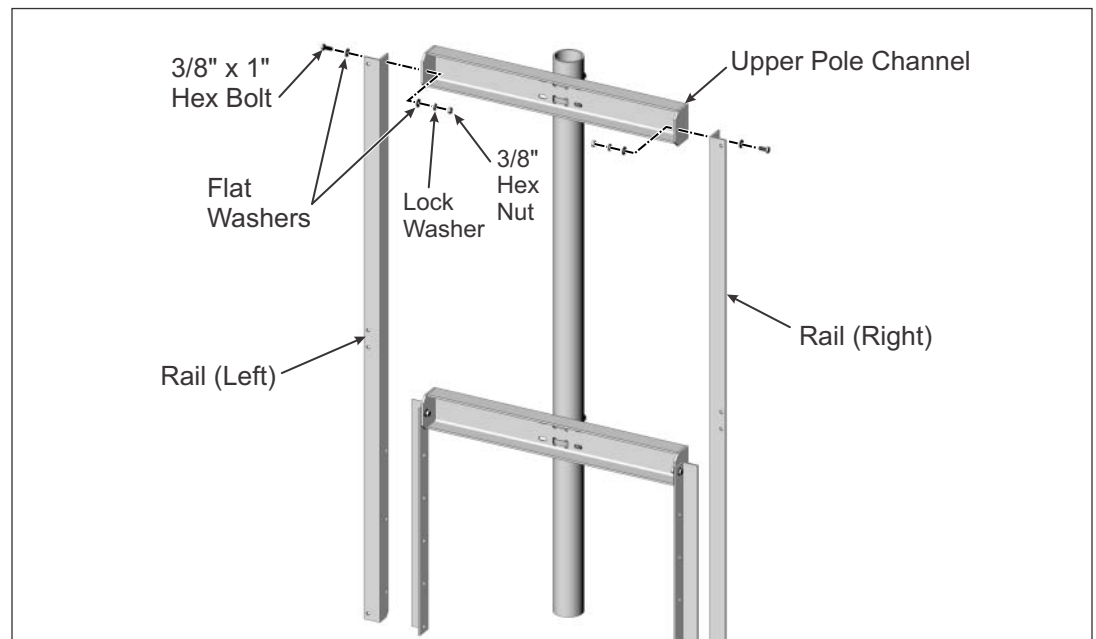

*Figure 2-1: Attaching First Half of Expandable Struts to Pole Channel*
The Expandable Struts are attached to the ends of the lower Pole Channel using 3/8" x 1" hex bolts and hardware. The Struts are attached/assembled in two stages with one half installed here (See Figure 2-1) and second half installed in Step 4.
- A. Orient and align the Struts as shown in Figure 2-1. Secure with one 3/8" x 1" hex bolt, lock washer, flat washers, and Hex Nut, and finger tighten for now.